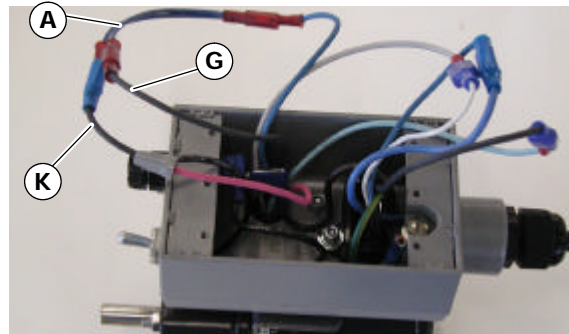

Figure 18
**13a.** Connect male ends of wiring harness (A of Figure 18) to black wire (G) and black wire (K) (from red). Proceed to step 14.